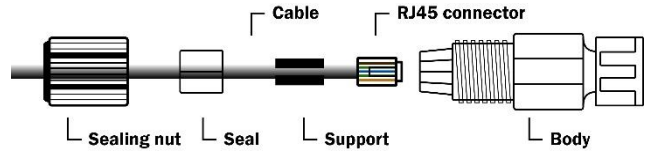

Figure 3. RJ45 Feed-through lock connector
**NOTE:** For connecting LOCU212-503 anchor, use RJ45 Feed-through lock connector (see Figure 3.). Support part is not needed if the RJ45 connector has strain relief. It is not possible to use RJ45 Feed-through lock connector with a RJ45 connector which has latch protection.